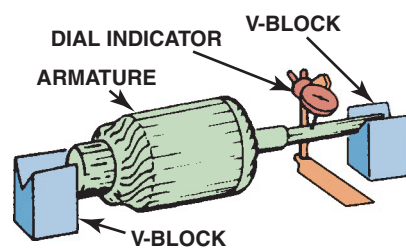

FIGURE 18-9 Measuring an armature shaft for runout using a dial indicator and V-blocks.
- **Starter armature.** After the starter drive has been removed from the armature, it can be checked for runout using a dial indicator and V-blocks, as shown in ● FIGURE 18-9.